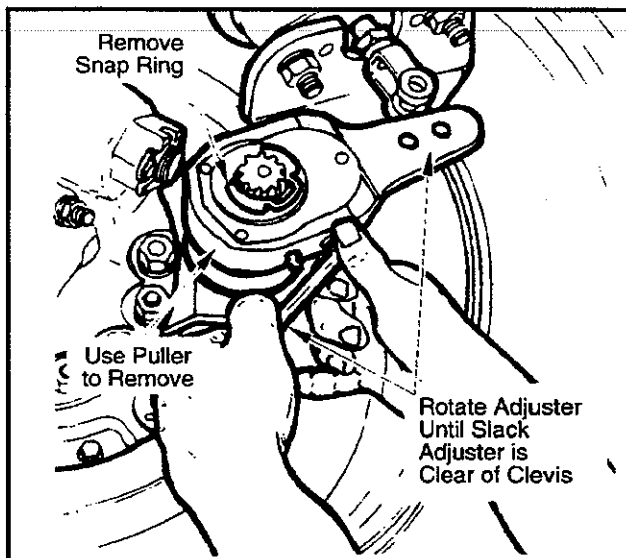

Figure 21—Slack Adjuster
2. Depress locking sleeve, turn adjuster nut until slack adjuster is clear of air chamber push-rod clevis. (See Figure 21—Slack Adjuster.)